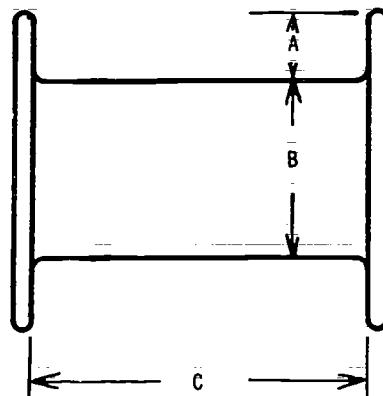

Figure 7-70. Determining Winch Drum Capacity
Refer to Figure 7-70. Add the diameter of the drum (B) to the depth of the flange (A). Multiply the sum by the depth of flange (A). Multiply the result by the length between the flanges (C), all in inches. Multiply the product by the factor in the right hand column opposite the size of rope required. The result will be the amount of rope in feet that the drum will hold.